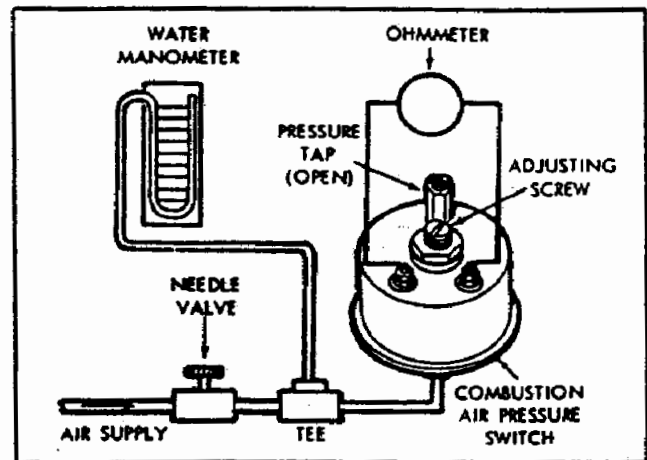

FIGURE 4-3 Test Set-Up for Combustion Air Pressure Switch
a. Discard all rubber parts, such as grommets, gaskets, etc. These items should always be replaced at overhaul. Also discard the rope gasket (75).
d. The combustion air pressure switch (31) must respond to delicate pressure changes and should always be checked and/or replaced at overhaul. Refer to Paragraph 4.9, c and Figure 4-3.
(1) Connect an adjustable air pressure line that can be controlled in a range of zero to 5.0 (maximum of water to the switch opening with a water manometer and needle valve in the line ahead of switch.) Switch must be tested in 45 degree position as shown in Figure 4-3, or as mounted on Heater as in aircraft.
(2) Connect an ohmmeter across the switch terminals to determine the exact instant of switch closing.
(3) Apply air pressure allowing it to build up very slowly from zero. The switch contacts should close at  $0.5 \pm 0.1$  inches of water which will be indicated on the manometer.